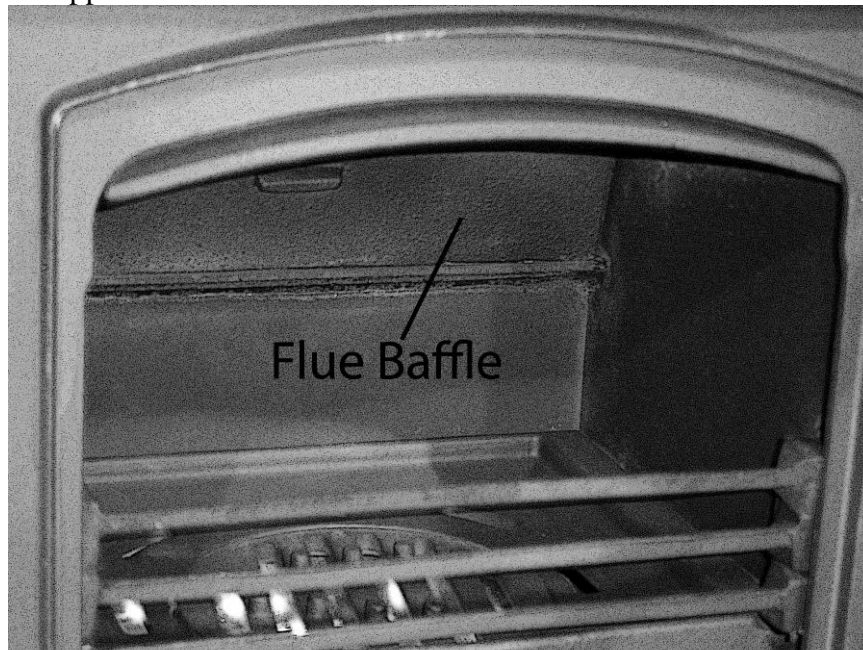

Fig 15.
- Remove baffle (fig 15) by sliding it upwards and pulling out, rotating around baffle supports.